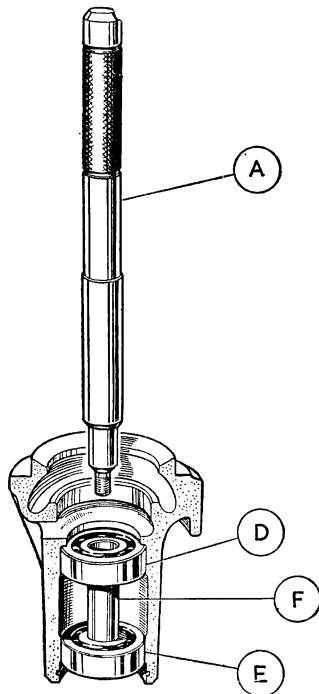
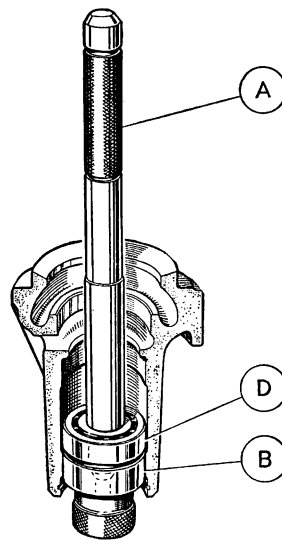
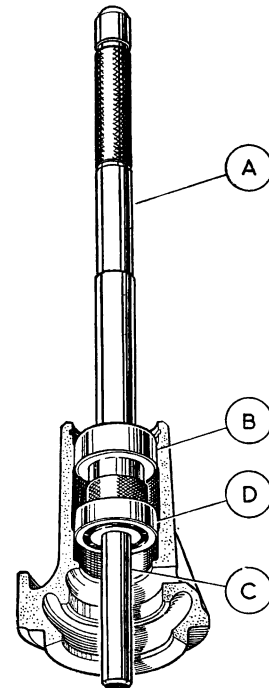

Fig. C.3
Fig. C.4
Fig. C.5
The withdrawal of the ball races is assisted by the use of special tool 18G60, which comprises three parts: the driver (A) (Fig. C.3), dummy front bearing (B) (Fig. C.4), and the pilot (C) (Fig. C.5). It is designed to remove and replace the water pump bearings without damage to the pump body.
Insert the driver (A) (Fig. C.3) into the rear bearing (D) and tap downwards until the front bearing (E) and the distance piece (F) are released.
Position the dummy front bearing in the pump body and screw the driver into it (Fig. C.4). The rear bearing is now aligned with the housing bore and may be tapped out and the felt washer and retainers removed.
Assemble the driver, dummy front bearing, and pilot (C). Position the rear bearing, the felt ring inner retainer, the felt ring, and the outer retainer, in that order, on the pilot and press them into the pump body (Fig. C.5). Use a new felt ring if the old one is damaged.